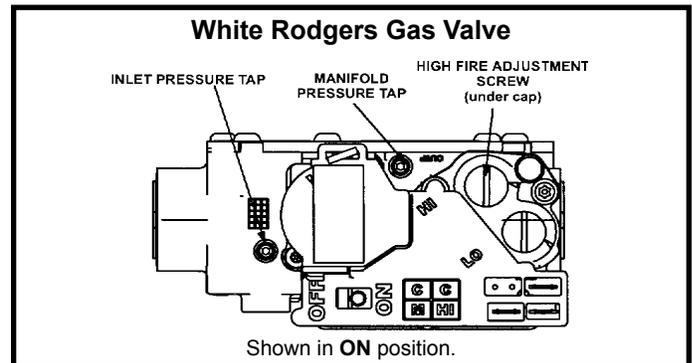

Figure 33
Gas Valve Operation (Figures 33 and 34)
6. Move gas valve switch to **OFF** position. Do **not** force. See Figure 33 or 34.
7. Wait five (5) minutes to clear out any gas. If you then smell gas, **STOP!** Immediately call your gas supplier from a neighbor's phone. Follow the gas supplier's instructions. If you do not smell gas go to next step.
8. Move gas valve switch to **ON** position. Do **not** force. See Figure 33 or 34.
- Move gas valve switch to **OFF** position. Do **not** force. See Figure 33 or 34.